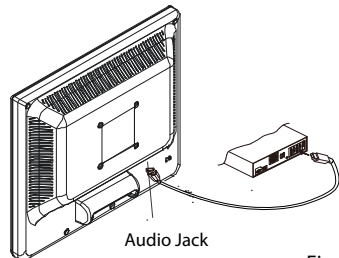

Figure 1-5
1. Connect the audio cable to the "LINE OUT" jack on your PC's audio card or to the front panel's "AUDIO OUT" jack of your CD ROM drive. (See Fig. 1-5)